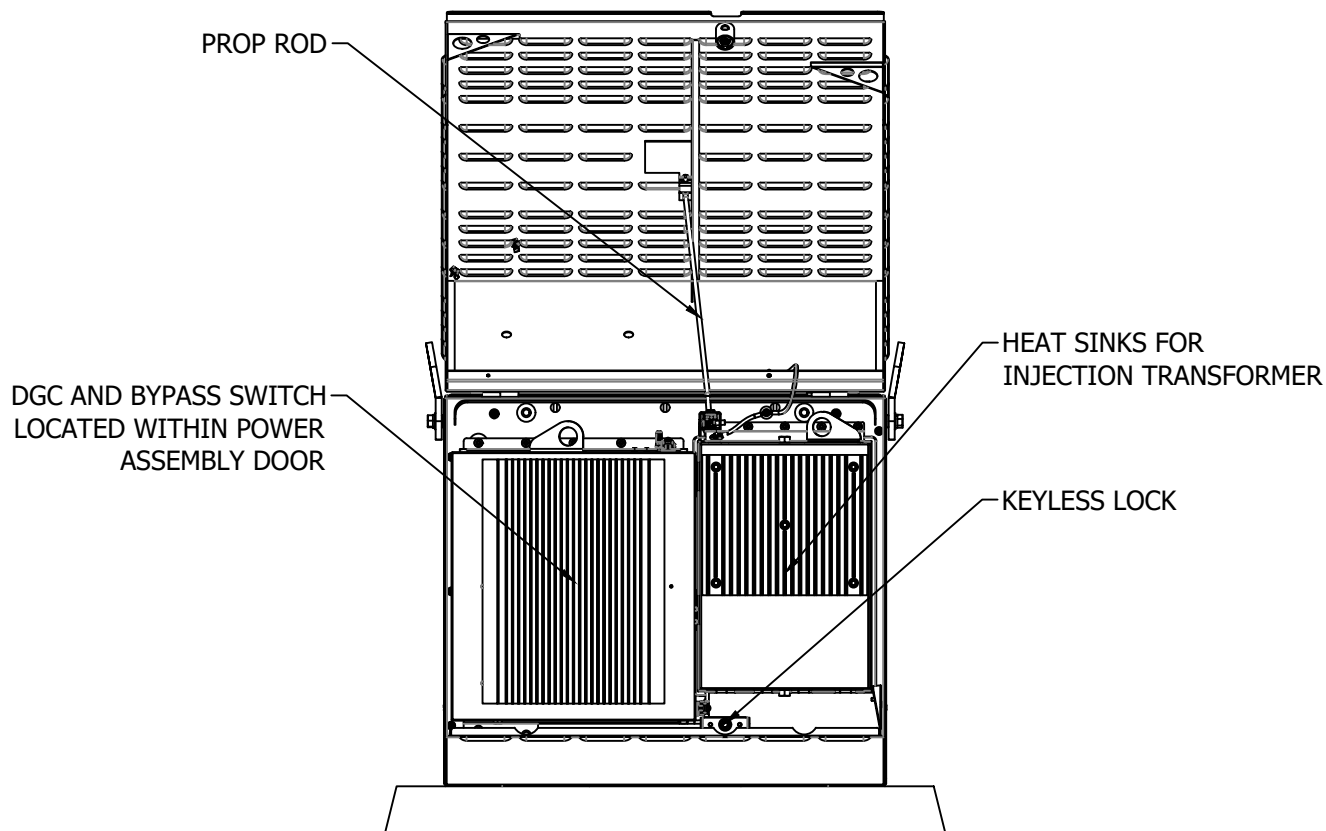

FIGURE 6
- H. PRIOR TO ENERGIZING THE UNIT, THE BYPASS SWITCH SHOULD BE IN THE BYPASS POSITION. ONCE THE TRANSFORMER IS ENERGIZED, CHECK VOLTAGE ON THE SECONDARY SIDE. IF VOLTAGE IS ACCEPTABLE, TURN BYPASS SWITCH TO "ON" AND CHECK SECONDARY VOLTAGE AGAIN. SEE FIGURE 6.